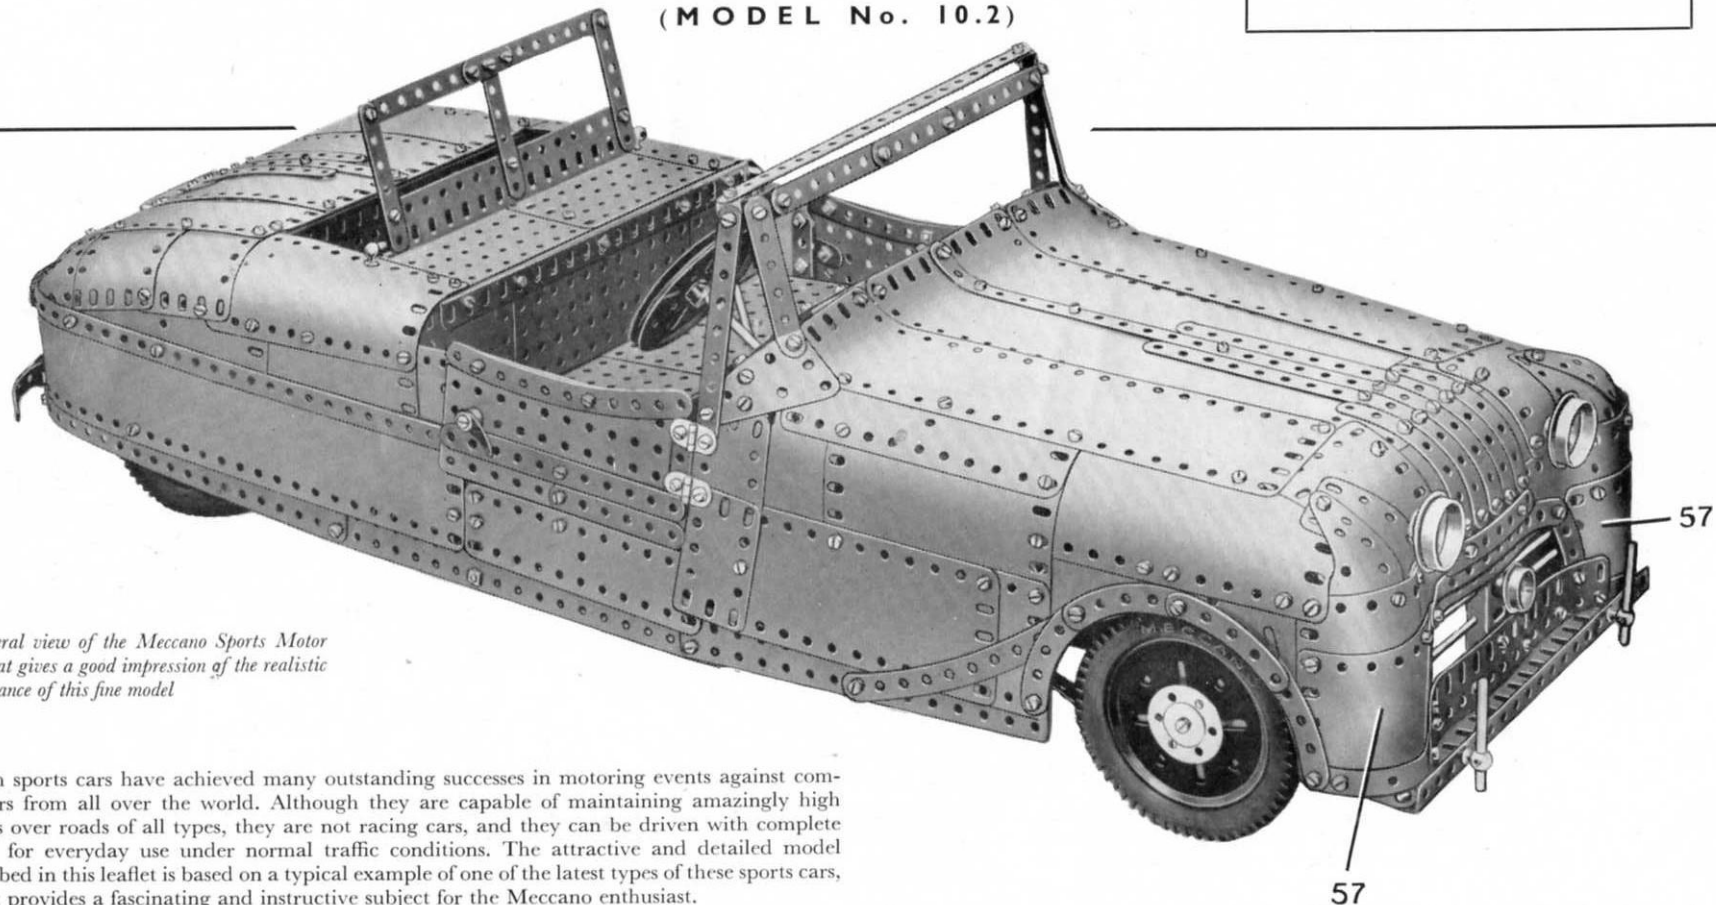

FIG. 1
The general arrangement of the Plates that form the sides and the top of the body is shown clearly in Figs 1, 9, and 10. The curved front is formed by a  $3\frac{1}{2}'' \times 2\frac{1}{2}''$  Flexible Plate (57) on each side, and the lower corners of these are connected by a  $7\frac{1}{2}''$  Flat Girder. A  $9\frac{1}{2}''$  Flat Girder is